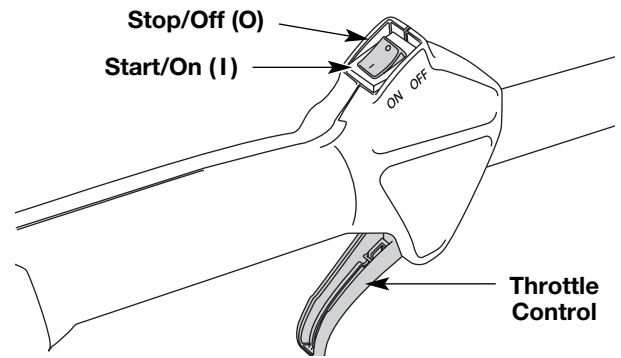

Fig. 9
NOTE: There is no need to turn the unit on. The On/Off Stop Control is in the ON (I) position at all times (Fig. 9).